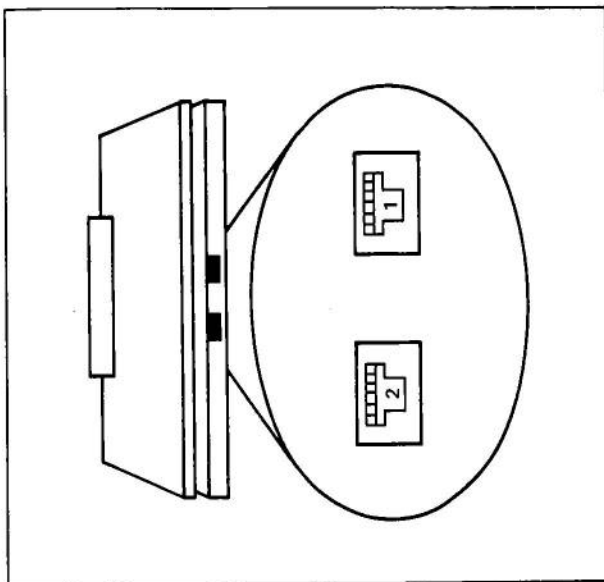

Figure 7 – Thumbwheel Switch Location
Step 7 - Two thumbwheel switches are located near the rear edge of the Module. (See Figure 7.) Both of these must be set to a specific digit in relation to the Reference Numbers assigned to the Module's 2 channels. Read Application Note 9 and refer to Table C. Also use the list described earlier in this publication at "Switch Settings."
9. Thumbwheels near the rear edge of the Module identify each circuit with respect to a specific Reference Number and output register. When looking at the Module so that the label is readable, the lower thumbwheel identifies the bottom channel; the higher thumbwheel identifies the top channel. See Figure 7 and Table C. Exact settings must be supplied on system drawings to aid installation teams.